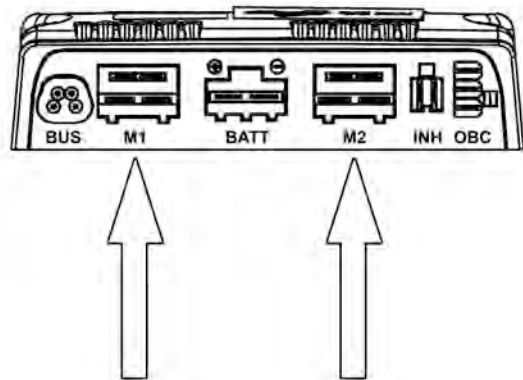

Figure 35. Drive motor connections.
4. Reconnect the drive motor connections to the Power Module. See fig. 35.